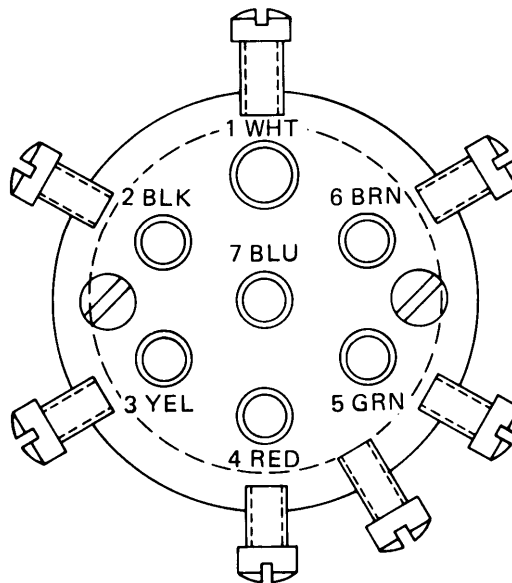

Figure 4-2. 12 Volt Receptacle Wire Placement
- (2) Insert wires in receptacle (5). Be certain wires go in proper place (fig. 4-2).